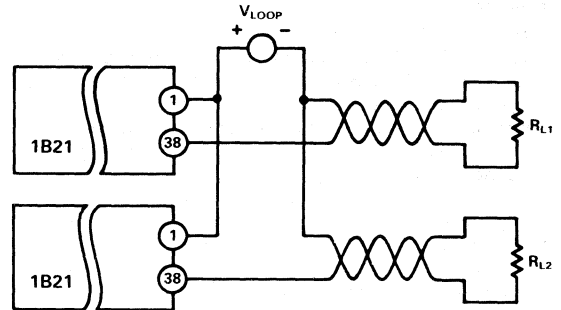

Figure 5. Multiple 1B21s with Single Loop Supply
**Multiloop Isolation:** Multiple 1B21s can be connected to a single loop supply in parallel as shown in Figure 5. The amperage of the loop supply should be sufficient to drive all the loops at full-scale output.